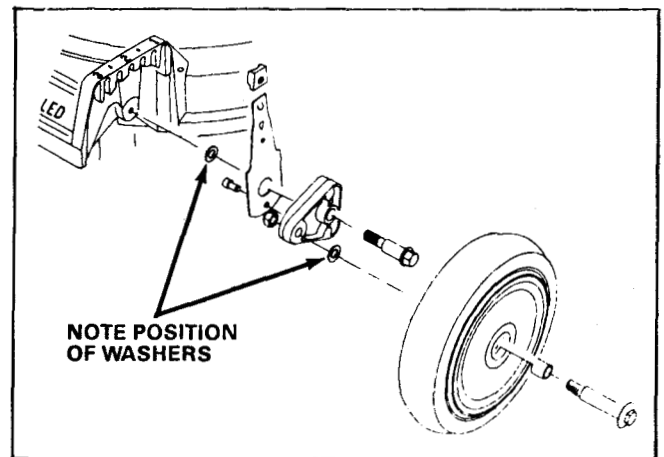

Figure 36
3. Install the spring arm and pivot arm assembly onto the deck using the shoulder bolt and nylon locknut. Don't forget the spacer that fits between the deck and the pivot arm. Torque the pivot arm bolt. See Figure 36.